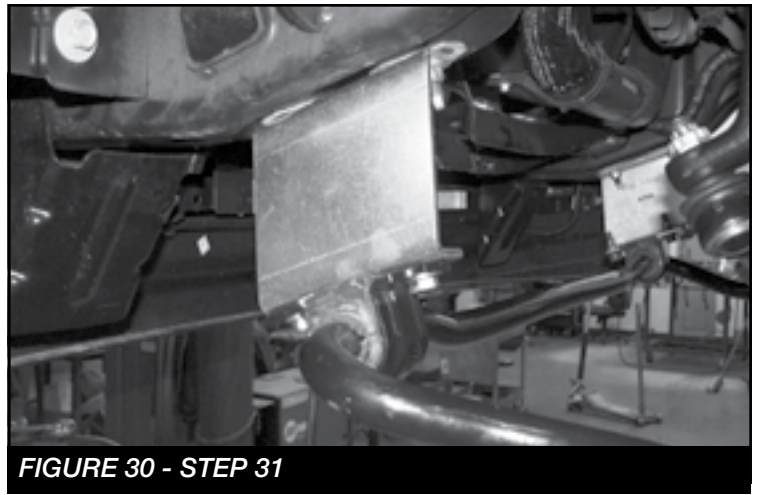

FIGURE 30 - STEP 31
31. Install FT30630 (Driver) & FT30629 (Passenger) Sway bar drop brackets using the factory hardware. Torque to 35 ft-lbs. Reinstall the front sway bar to the end links using the supplied 7/16" hardware torque all hardware to 83 ft-lbs. Reconnect the sway bar to the end links. Torque to 59 ft-lbs **SEE FIGURE 30**